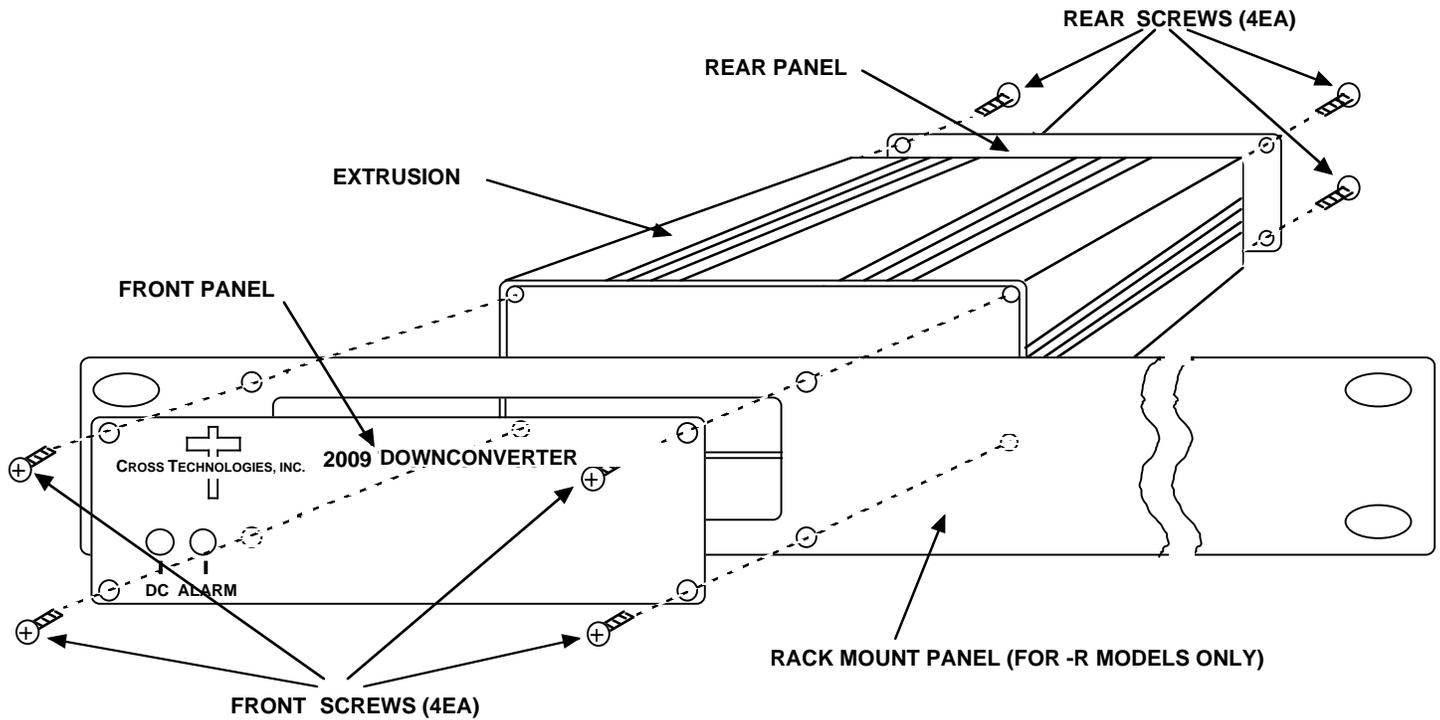

FIGURE 2.1 Model 2009-72P-79P Assembly (-R option shown)
The 2009-72P-79P is packaged in an aluminum extrusion. The **-R option** is mounted on a 1 3/4" X 19" panel that can be mounted to a rack using the 4 holes at the ends (See Figure 2.1).
2. Remove four (4) **rear panel screws** (see Figure 2.1).
5. Install four (4) **rear panel screws**.